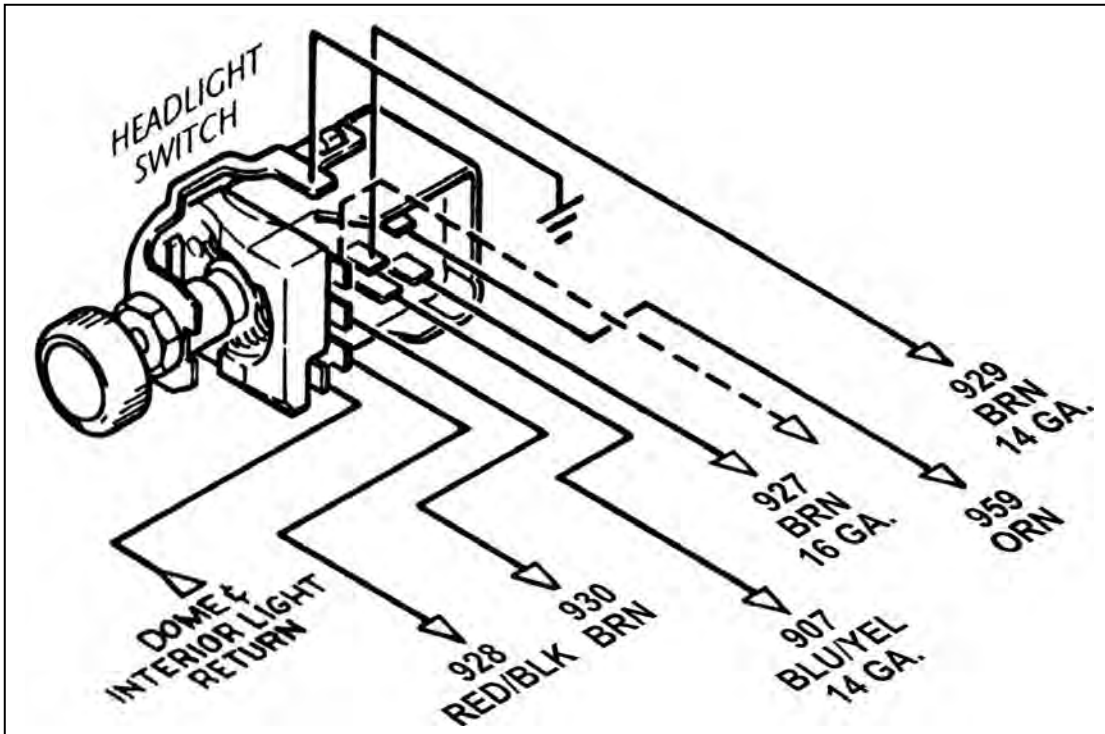

Figure 8.5 Headlight Section "B" Wiring (Headlight Switch – Painless Part #80152)
8.4 HEADLIGHT SECTION "B" WIRING. See Figure 8-5.
Note: On late style GM headlight switches, the park lights terminal to which wire #927 (brn) is connected (shown in Figure 8-5) has been omitted. In this case, wire #927 must be connected as indicated by the dashed line in Figure 8-5.